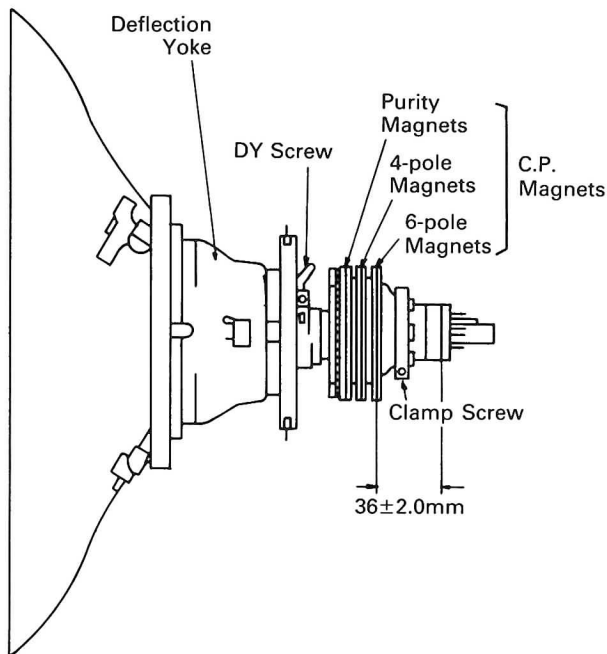

Fig. 7
- 5) Fit C.P. (Magnet) Assembly to the neck of the picture tube and fasten with the screw at the position where the distance between 6-pole magnet end and the base of picture tube is as shown in Fig. 7.